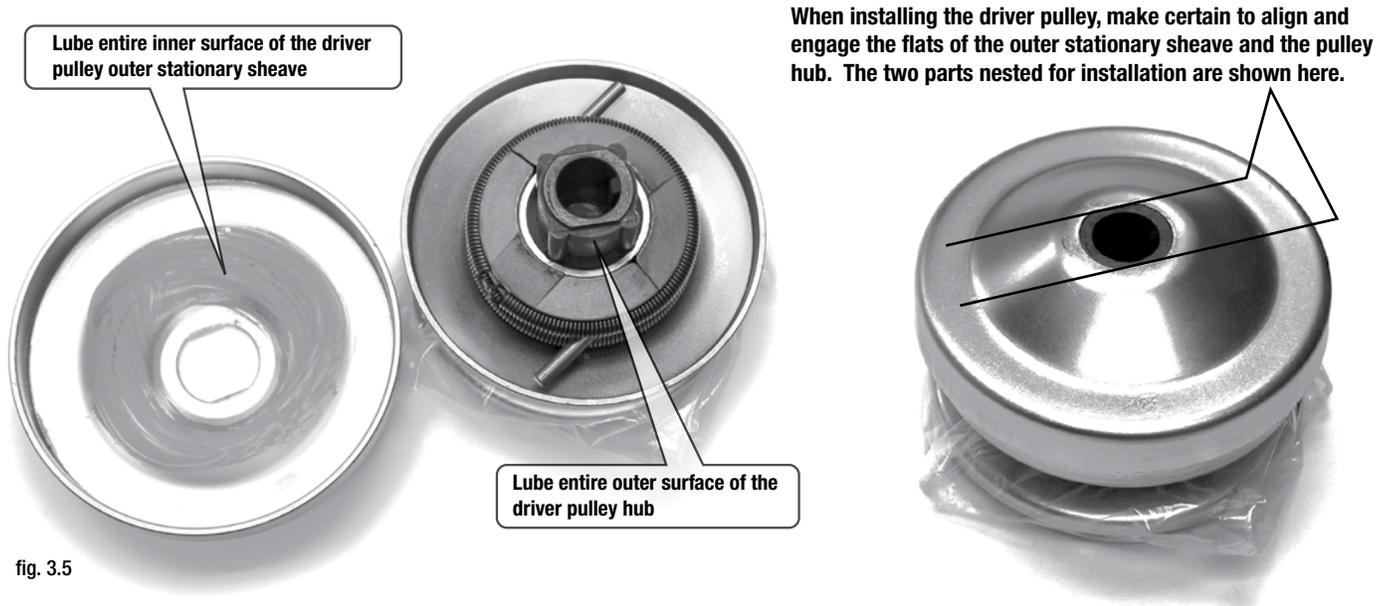

fig. 3.5
E. Driver Pulley Lubrication and Cleaning (see figure 3.5)